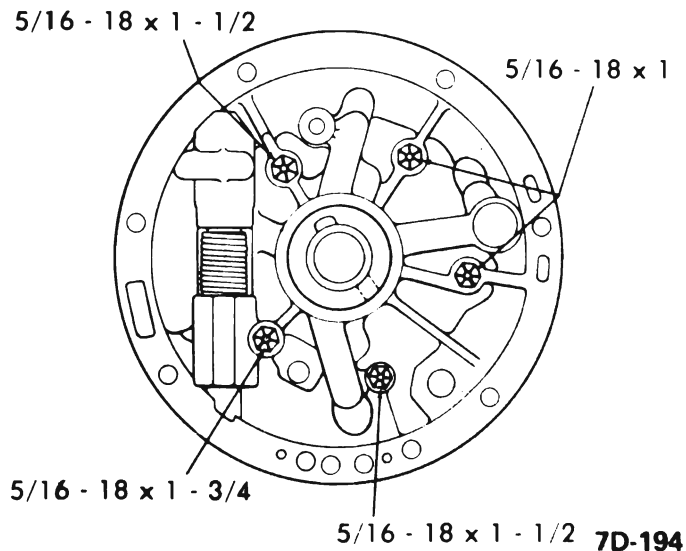

Figure 7D-126
7. Install the previously selected front unit selective thrust washer over the pump cover delivery sleeve. See Figure 7D-124.